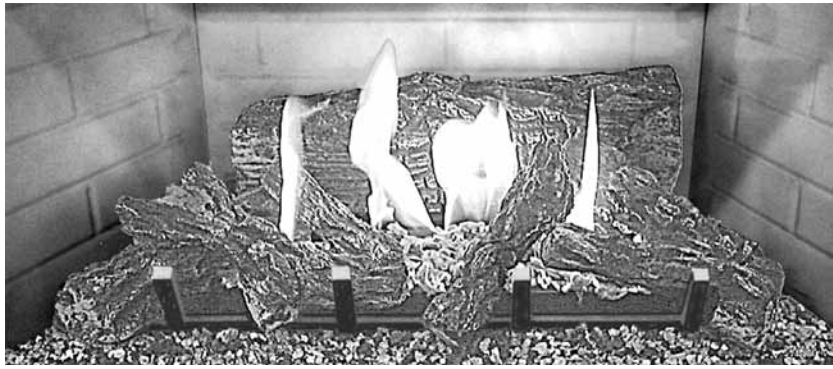

Figure 61
1. Refer to **Figures 61, 62 and 63** for proper flame appearance. To adjust the flame, rotate the adjustment rod toward the back or toward the front of the fireplace (rod located in the lower control area). Position the air shutter to the factory setting as shown in the table in **Figure 64**.